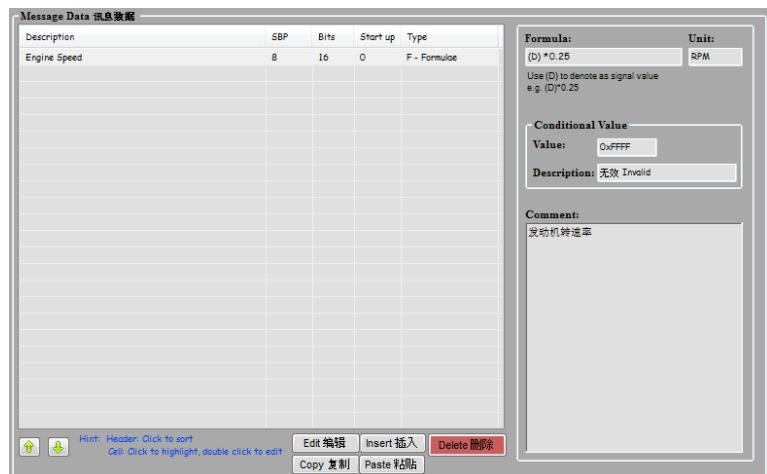

Figure 14: Operational parameter for Formula type
- Type : Select “F” for formulae and the available options for formula type will be shown- See Figure 14 for reference. For other available type, please refer to section 9.4 for more details.